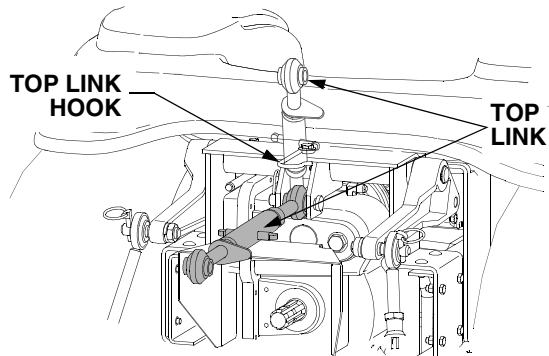

Figure 22
- Pivot the link hook from its storage position to the center and lower the top link into the hook of the rod. See Figure 22.